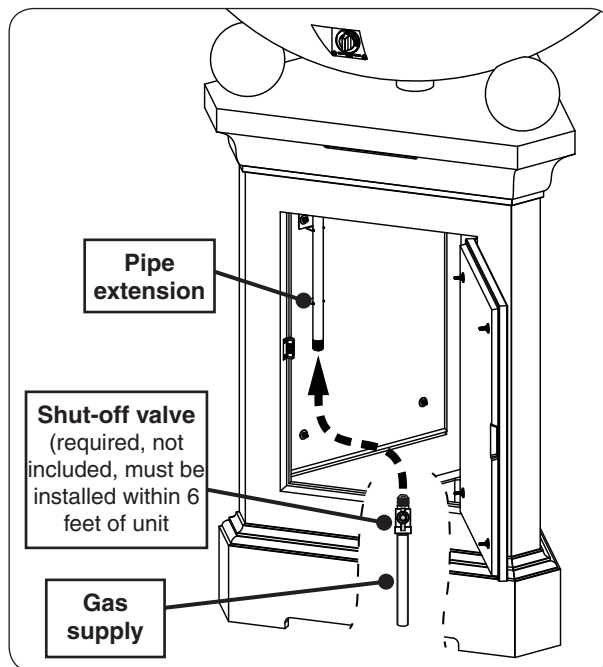

Fig. 30-1 Connecting to a gas line
2. Plumb the gas supply to the 1/2" pipe extension (that is mounted to the interior wall of the pedestal). See Fig. 30-1.